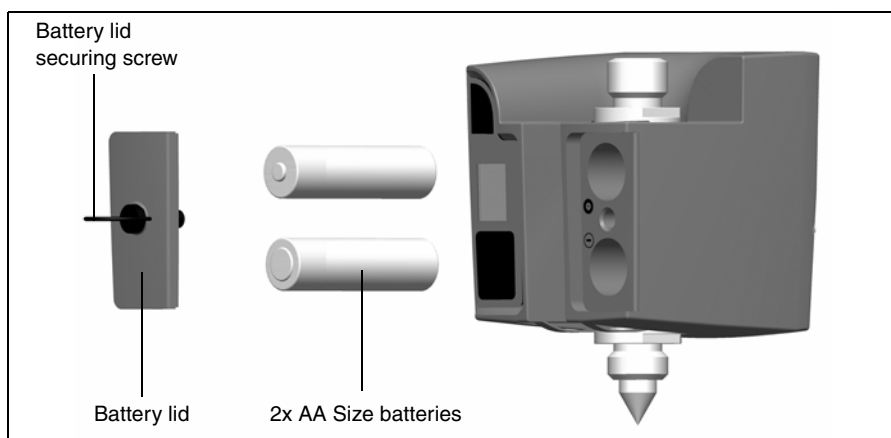

Figure 7.71 Target ID battery change
4. Fit the battery lid and then secure it by turning the screw a quarter of a turn clockwise. See figure 7.71